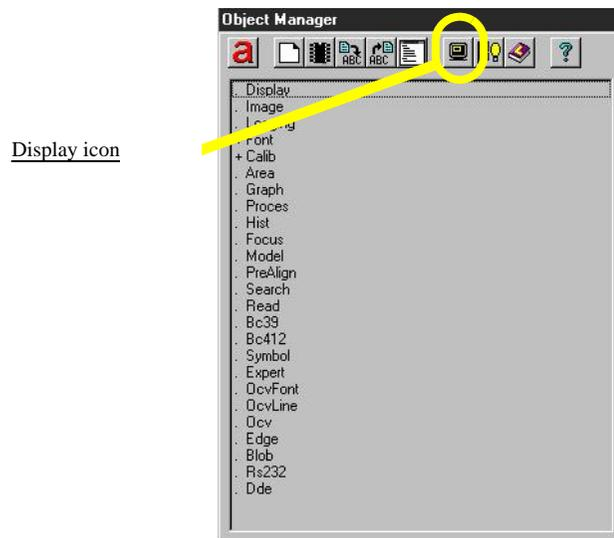

Figure 6-69—Display icon on Object Manager box
- On the Object Manager box, click the display icon. See Figure 6-69.